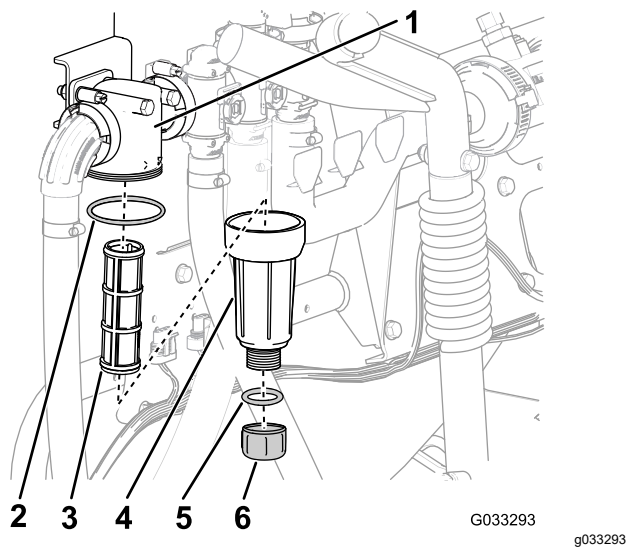

Figure 55
2. Align a drain pan under the pressure filter (Figure 55).
3. Rotate the drain plug counterclockwise and remove it from the bowl of the pressure filter (Figure 55).
4. Rotate the bowl counterclockwise and remove from its filter head (Figure 55).
5. Remove the old pressure filter element (Figure 55).
6. Check the O-ring for the drain plug (located inside the bowl) and the O-ring for bowl (located inside the filter head) for damage and wear (Figure 55).
7. Install the new pressure filter element into the filter head (Figure 55).
8. Install the bowl onto the filter head and tighten by hand (Figure 55).
9. Install the plug into the bowl and tighten by hand (Figure 55).